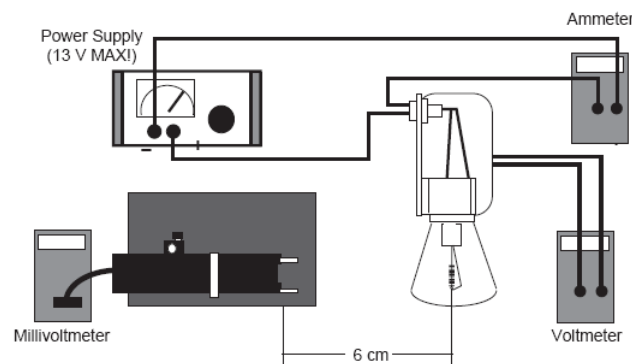

Figure 2: Equipment setup.
- A-2. Set up the equipment as shown in Figure 2. The voltmeter should be connected directly to the binding posts of the Stefan-Boltzmann Lamp.
- A-3. Adjust the height of the Radiation Sensor so that it is at the same height as the filament with the front face of the sensor approximately 6 cm away from the filament (see Figure 2).